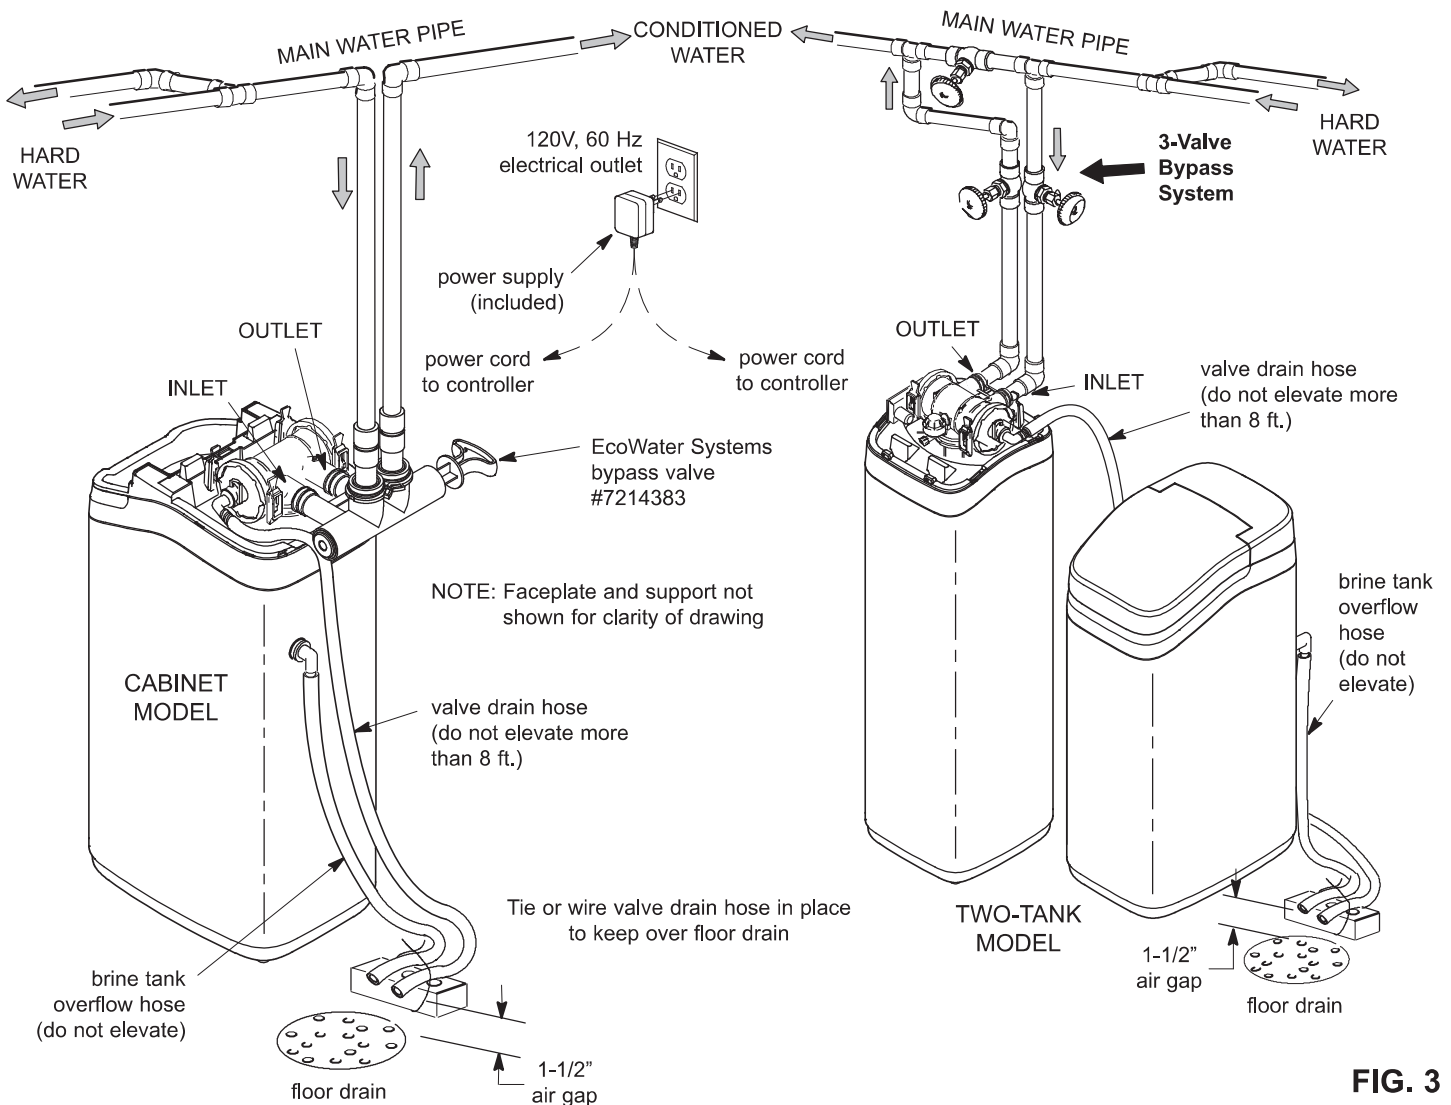

FIG. 3
If installing a 3-valve bypass system, plumb as needed using Figure 3 as a guide. When installing sweat copper, be sure to use lead-free solder and flux, required by federal and state codes. Use pipe joint compound on outside pipe threads.
The house cold water pipe (metal only) is often used as a ground for the house electrical system. The 3-valve bypass type of installation, shown in Figure 3, will maintain ground continuity. If you use the plastic bypass, continuity is broken.
- c.** Run the hose to the floor drain, and as typically shown in Figure 3, tie or wire the end to a brick or other heavy object. This will prevent "whipping" during recharges. Be sure to provide a 1-1/2" minimum air gap, to prevent possible sewer water backup.